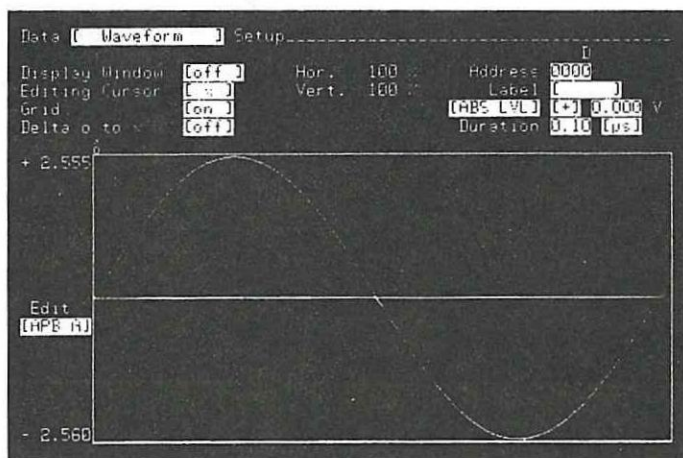

Figure 3B-3. [Waveform] Setup menu Details
8. Access the Data [Waveform] Setup menu (remember to use **NEXT[]/PREV[]** to exit) the Calculator. The menu details will be as shown in Figure 3B-3.